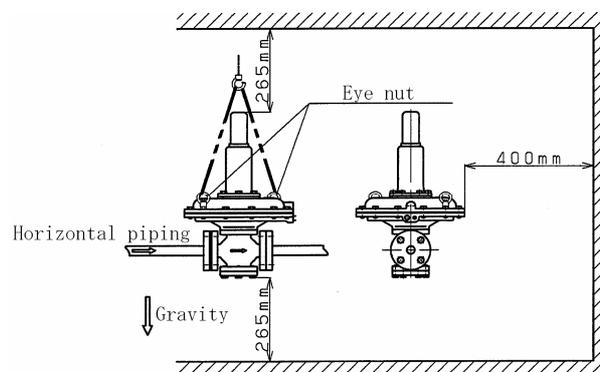

Fig. 2
- (7) The pressure reducing valve must be normal to the horizontal pipe, with the adjusting spring side facing up. (Refer to Fig. 2.)
※If the space is smaller than these values, the valve cannot be disassembled for maintenance. (Refer to Fig. 2)